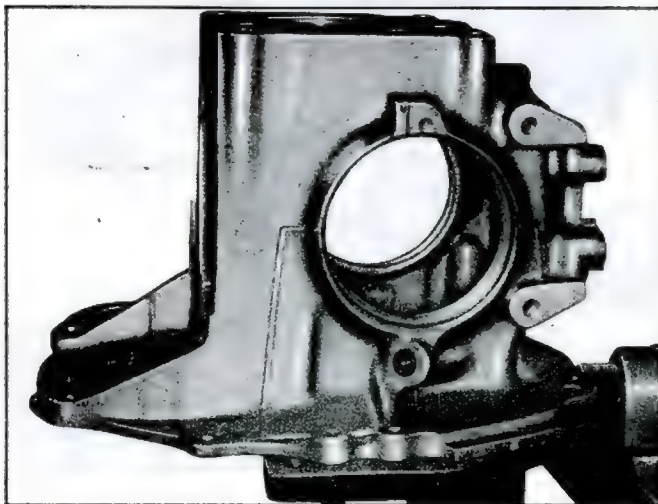

Fig. 44—Differential Carrier Installed in J-3289 Holding Fixture
1. Mount differential carrier in J-3289-01 Holding Fixture (fig. 44).